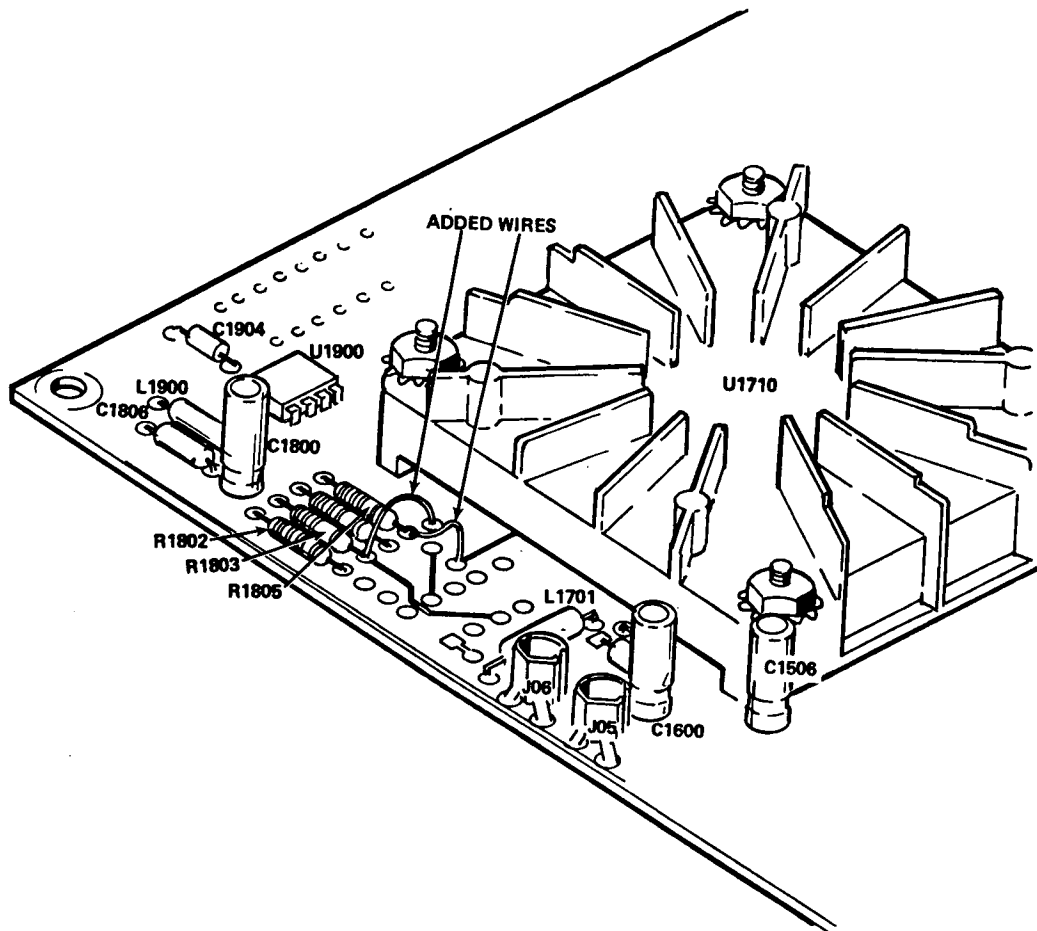

Figure 8. - Partial. Acquisition circuit board.
*The next three (3) steps are to be performed on the front (component) side of the circuit board.*
- ( ) 16. Add a length of 30 blue AWG wire to the circuit board pad from which R1705 was removed, nearest U1710. Solder the remaining end of the wire to the circuit board pad common to R1805, 1.69k $\Omega$ , resistor, nearest L1701, refer to Figure 8.
- ( ) 17. Add a length of 30 blue AWG wire to the circuit board pad from which R1801 was removed, nearest to the outer edge of the circuit board. Solder the remaining end of the wire to the circuit board pad common to R1803, 1.69k $\Omega$ , resistor, nearest to L1701, refer to Figure 8.